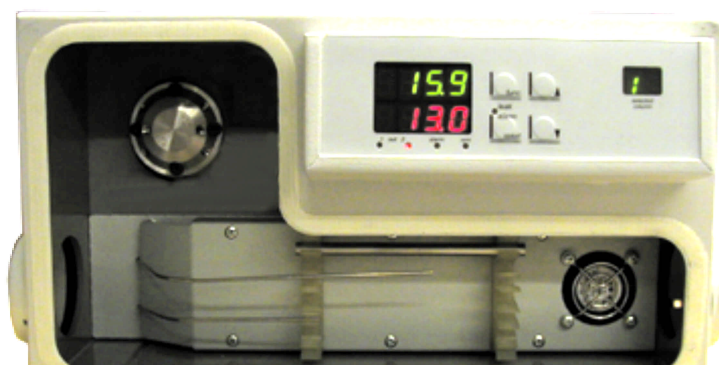

Figure 1-2. Front view of the column chamber showing the column inlet and outlet fittings.
The column chamber contains a drain line that directs solvent leaks away from the electronics. Connect drain tubing to the drain fitting located under the left-front panel of the Peltier Column Oven (see Figure 1-2), and directs the tubing to the system waste vessel as shown in Figure 2-4. Take care not to crimp the drain tubing.
- **Column Inlet/Outlet Fittings:** (see Figures 1-2 and 2-4). Standard fittings which accept 1/16-in. tubing for connection to the column inlet and detector.
- **Column Drain:** Directs leaks away from the column chamber to a fitting under the left-front panel of the oven (see Figure 1-2). Connect one end of a length of 1/8-in. tubing and place the other end in a waste vessel (see Figure 2-4).